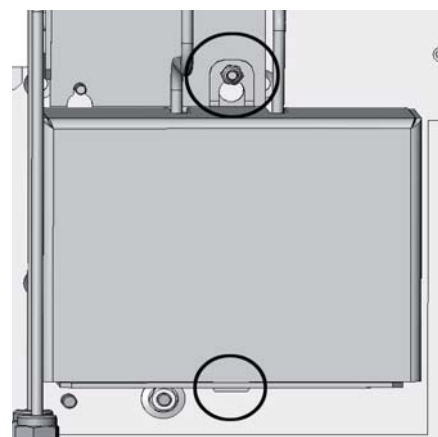

Fig. 4-11: Converter metallic cover
14. Install the metallic cover in such a way, that when it is pushed downwards, the key fits into the small slot and the screw nut is on top of the butt strap (Fig. 4-11).